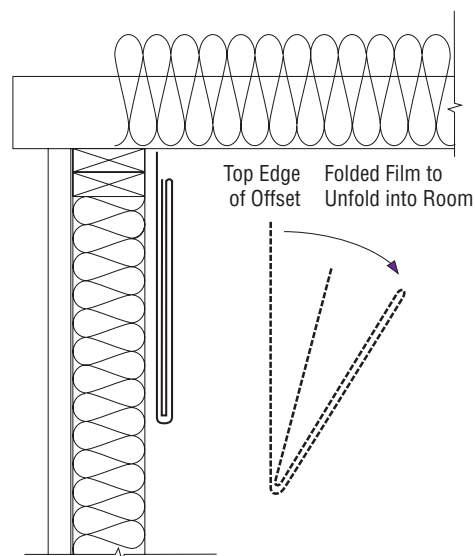

Figure 2: MemBrain sheeting orientation for wall installation method.
5. After stapling to the opposite corner, allow the folded sheet to unfold to the floor. (See Figure 2)